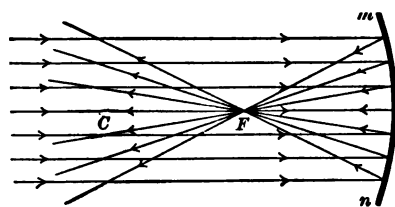

FIG. 390.—Concave mirror converges parallel rays.
**422. Principal focus.** When a beam of light parallel to the principal axis strikes a concave mirror, the rays are so reflected as to pass through, or very close to, a single point ( $F$  in Fig. 390).